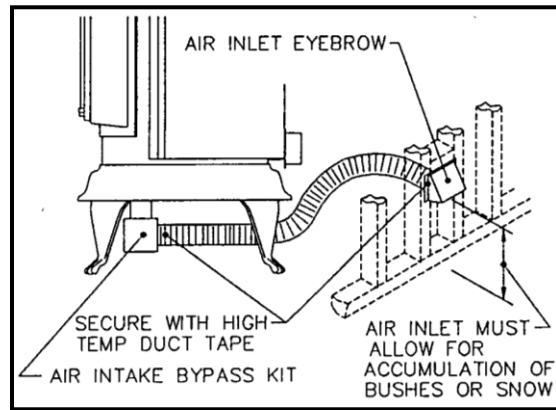

FIGURE 2
1. Outside combustion air is mandatory in mobile or modular home installations. An outside air inlet **MUST** be provided for combustion and ventilation air. The air inlet must remain unrestricted while unit is in use. Outside air connection is made at the air intake located on the rear of the stove (see **FIGURE 2 and 3**). The kit contains 2" flex tubing (part #43000-270). Outside air kit includes flex tube, hose clamp, and rodent screen/cap.